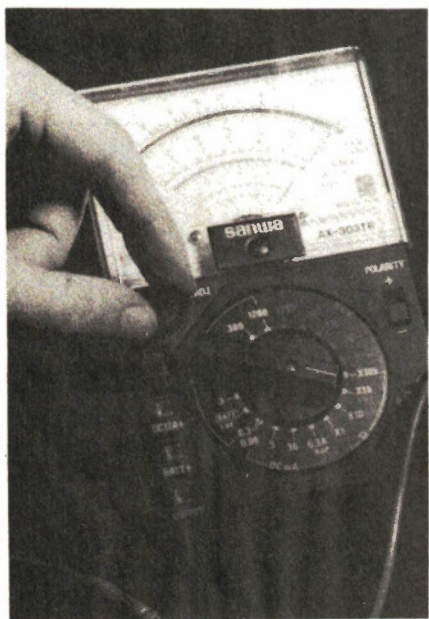

Fig. 7 The pointer crosses the scale at 10, but the meter is switched to the x1k, so multiply by 1000.
Using the meter is fairly simple. You can see from Fig. 7 that the meter has a rotary switch on the front which allows you to select the range of measurement you want. When the meter is connected to the circuit you wish to measure, the pointer moves and you can read-off the measured value on the scale.
- 3) Read off the scale at the point where the pointer crosses it. It should read 10 (Fig. 7).